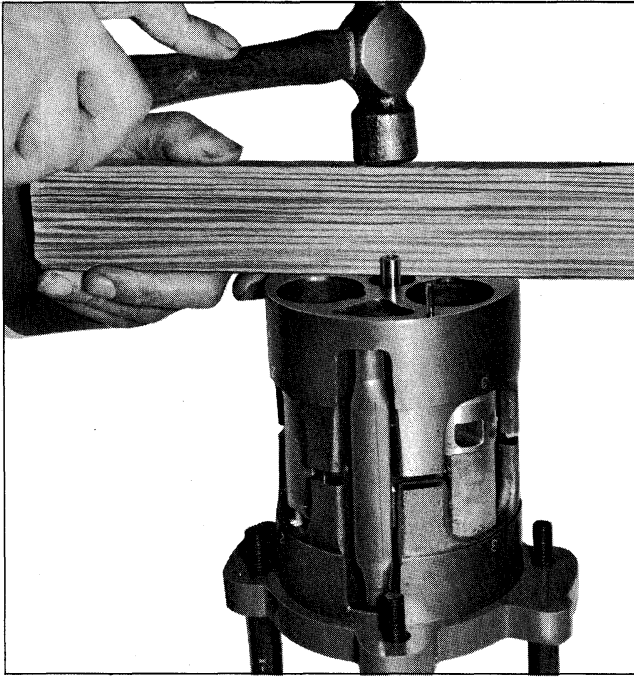

Fig. 5-22 Installing Rear Cylinder Half on Front Cylinder Half
12. Align rear cylinder casting with bores, suction passage, discharge crossover holes, dowel pins, etc. Tap into place using a hard wood or plastic block and mallet (Fig. 5-22).